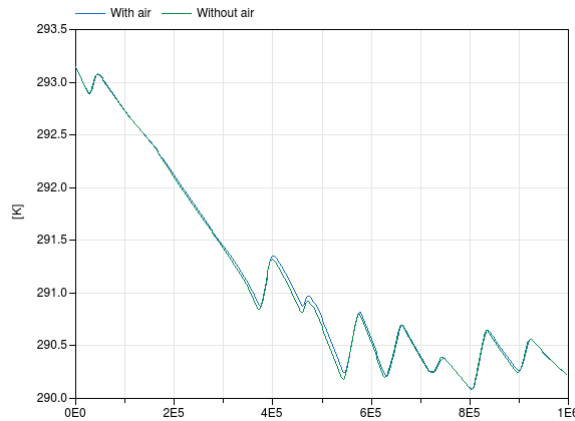

Figure 5: Wall temperature as function of time , with (blue) and without (green) air model.
**Reference result** The result with and without the air model is plotted in Figure 5.